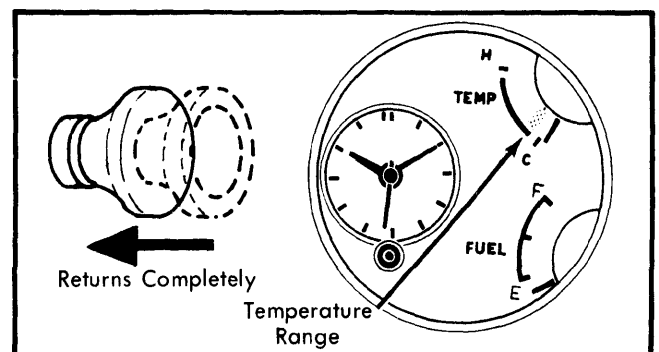

Fig. 6 Checking Automatic Choke Release
- 2) Start engine with choke knob pulled fully out. Knob should return halfway automatically within 48-72 seconds (20-70 seconds on Calif.) after starting. Set engine speed at 2000 RPM with choke knob. Let engine run and when temperature reaches range indicated in Fig. 6, choke knob should automatically return completely inward.